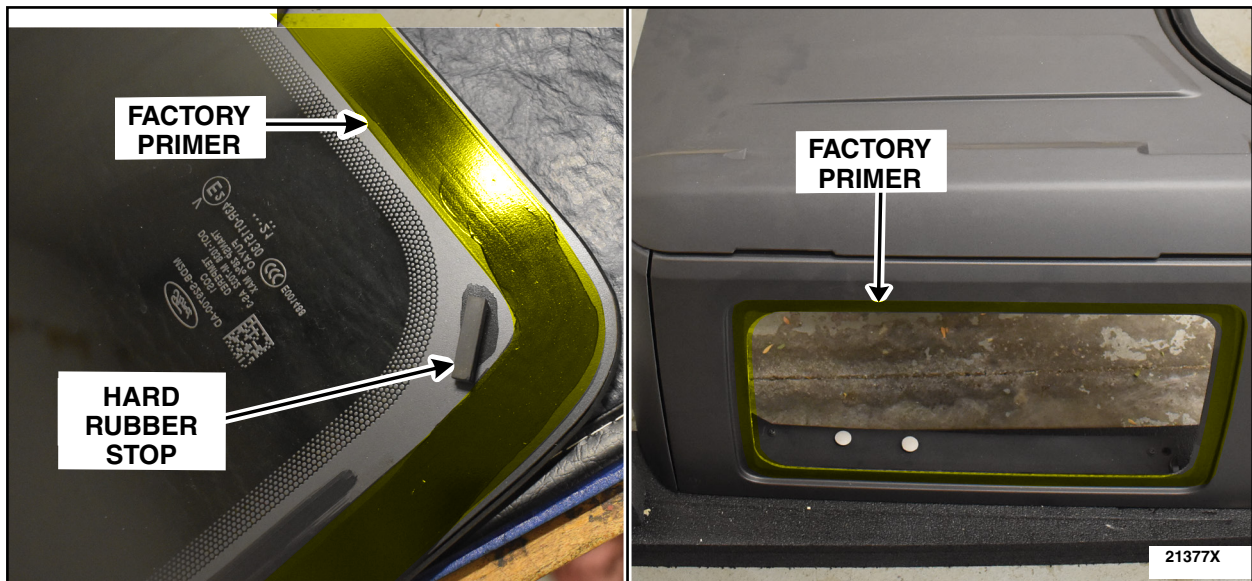

FIGURE 5
1. Using a clean and dry lint-free cloth, wipe any contamination off the factory primer located on the hard top rear cap assembly quarter glass flanges and on both quarter glass. See Figure 5, on Page 4.
3. Carefully apply some Sika® Primer-207 or Dow® BETAPRIME™ 5504G primer to the *new* hard top rear cap assembly quarter window glass flanges and to both *new* quarter glass on top of the existing black primer. Minimize applying primer only over the existing black factory primer and allow at least 10 minutes to dry. See Figure 5.